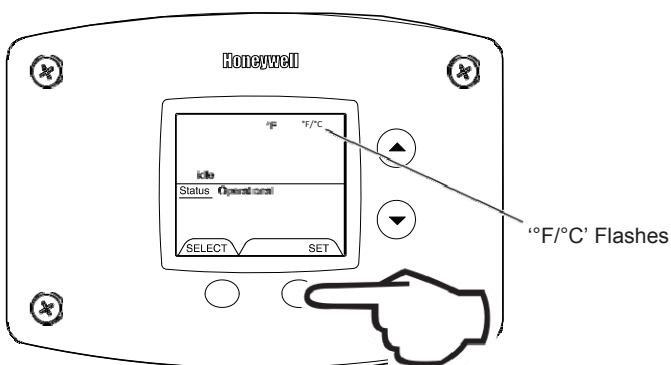

Fig. 55
- Press 'Set' button to change temperature format. '°F/°C' symbol will flash in the water heater display (Fig. 55).